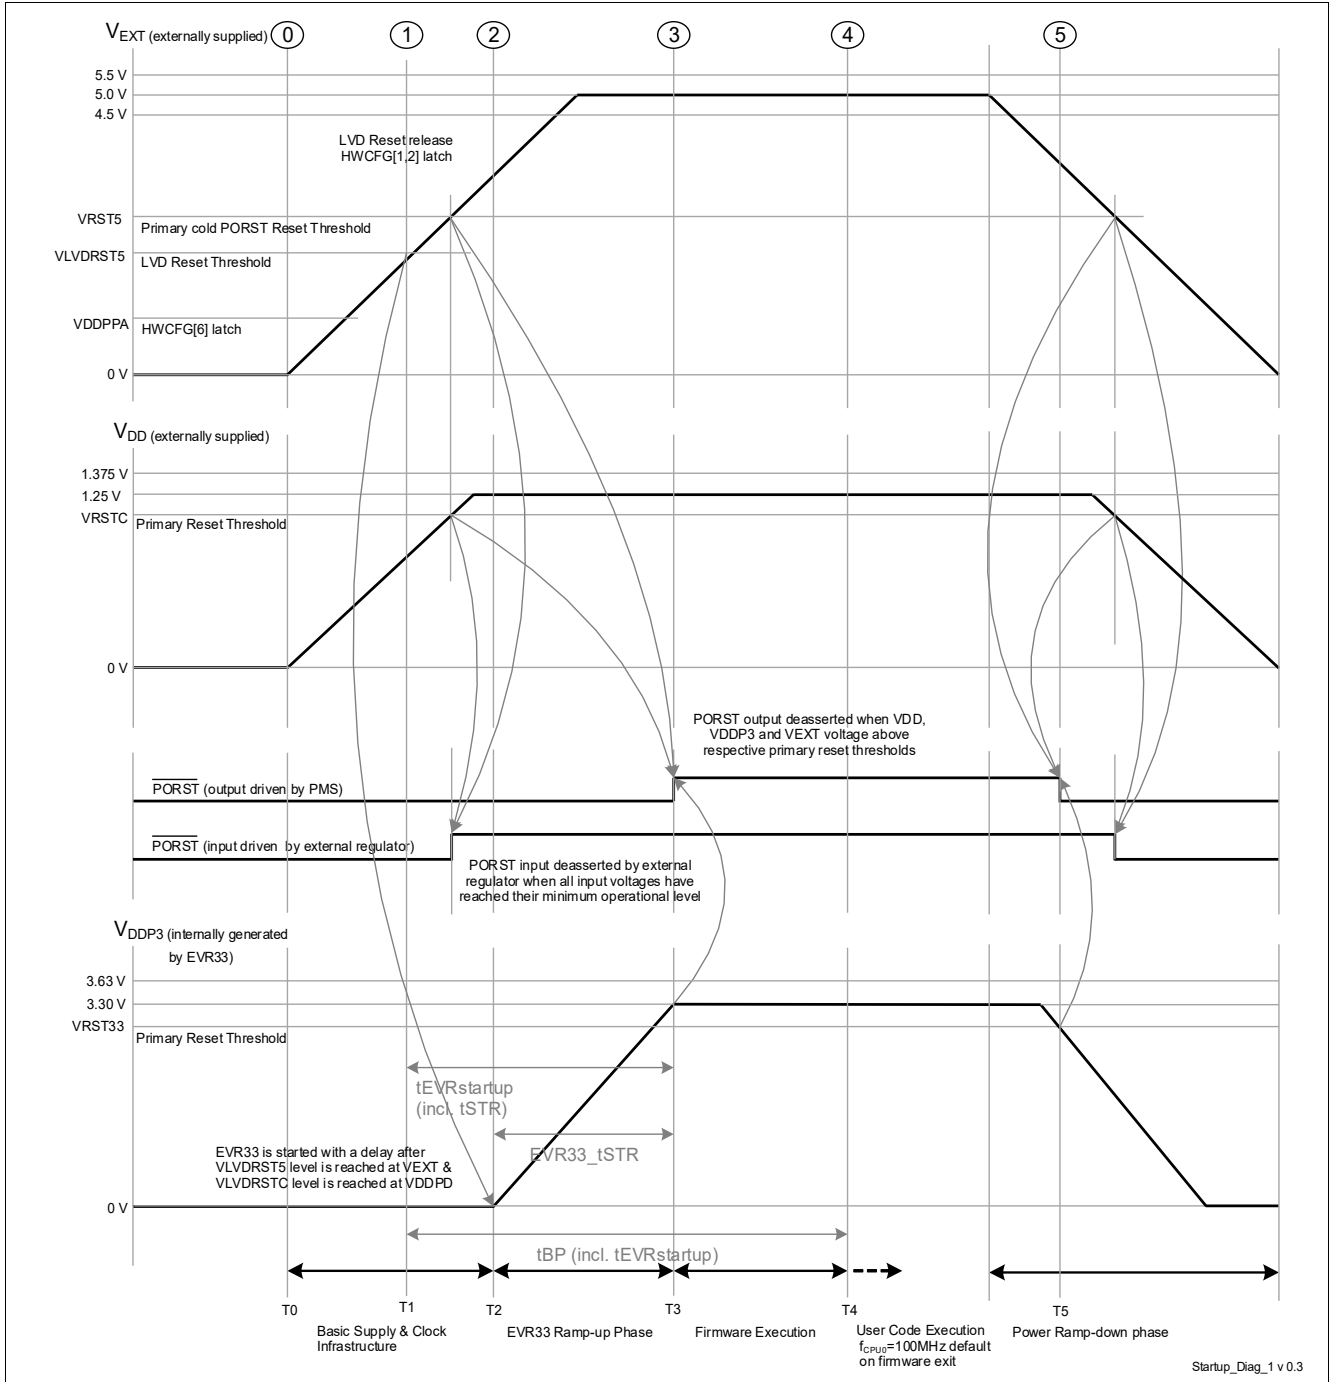

Figure 3-5 External Supply mode (d) -  $V_{EXT}$  and  $V_{DD}$  externally supplied
- The power sequence as shown in **Figure 3-5** is enumerated below